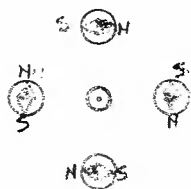

FIG. 2.
- STEP 2.** With the conductor vertical, move the compass around the conductor. Record the compass deflections on Fig. 2.